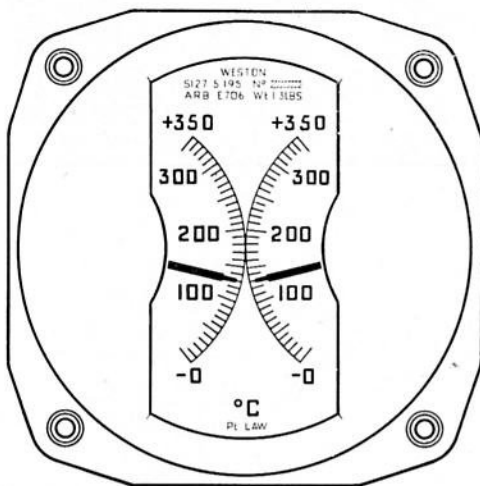

Fig. 1. Indicator, Type S127/5/195
1. The dual temperature indicator Type S127.5.195 (fig. 1) is calibrated in deg. C from 0 to 350 on each of two scales. The deflection of each pointer is controlled by the variation of resistance of an externally connected platinum law resistance thermometer element. The two indicator movements are each designed as a ratiometer.